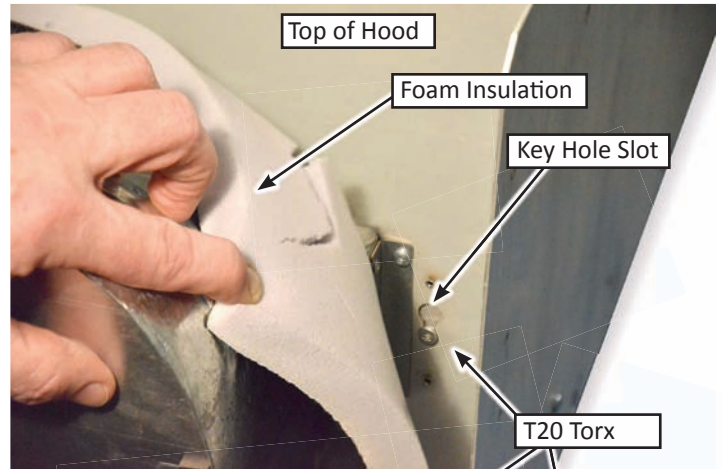

Figure 8
9. Loosen or remove (2) T20 Torx screws (one on each side) that mounts the motor into "key hole" slots at the top of the range hood, see figure 8 and 9.